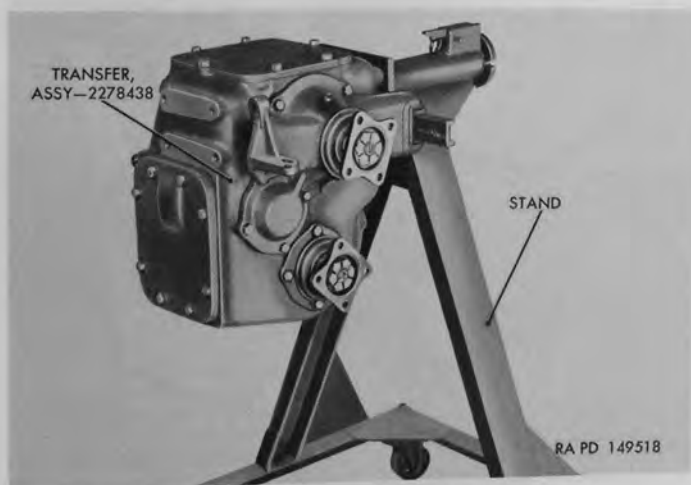

Figure 50. Transfer assembly mounted in repair stand.
b. Tools and Equipment.—A suitable repair stand (fig. 50) should be available to support transfer assembly while various component parts and subassemblies are being removed. A suitable press is required to remove bearing from shafts. The required special tools are listed and illustrated with other special tools in chapter 2. Clean trays should be available to receive parts as they are removed during disassembly.